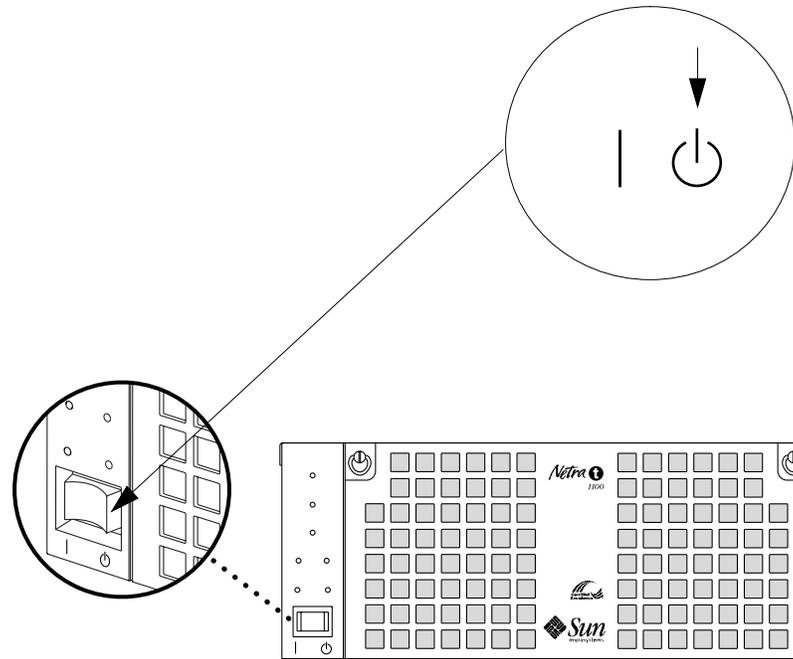

FIGURE 6-2 System Power-Off (Front Panel)
4. Momentarily set the front panel ON/STBY power switch to the STBY  position (FIGURE 6-2) until the system powers down.